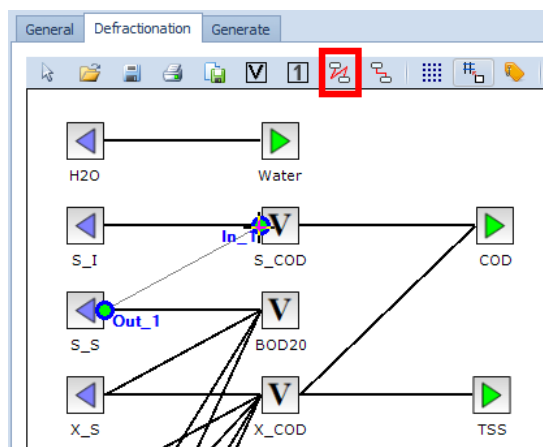

Figure 5.31 De-fractionation Model: draw a Connection
- hover over the outgoing terminal of the first Block (the terminal will be activated, Figure 5.31),